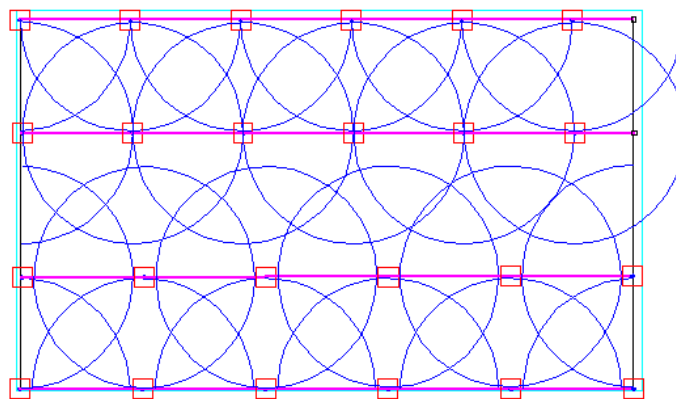

Figure 4-14
3. Starting from the left-hand side, draw another line so that the pipe will touch the extents of the wetted radii from the previous line of outlets as in Figure 4-14.